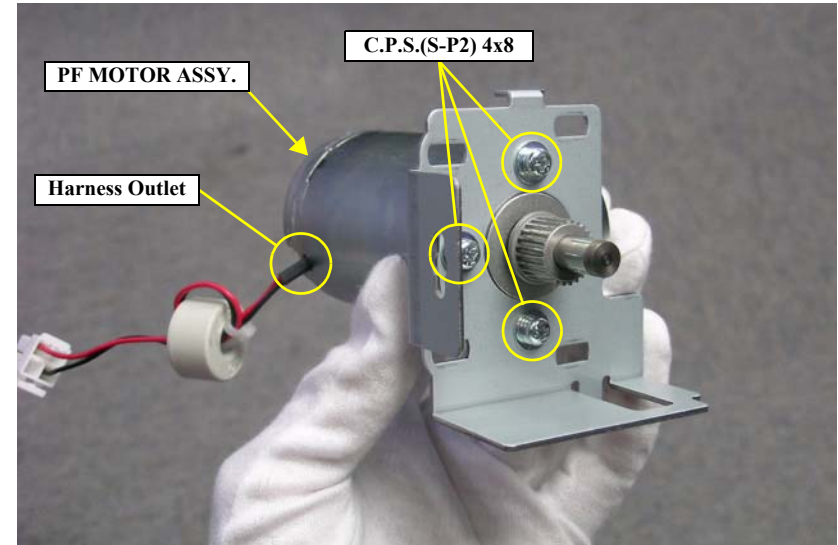

Figure 4-87. Removing the PF MOTOR ASSY.
9. Remove the three screws that secure the PF MOTOR ASSY. and remove it. *See Figure 4-87.*
Reinstall the PF MOTOR ASSY. so that the harness outlet of the assy. faces toward the rear side of the printer. *See Figure 4-87.*